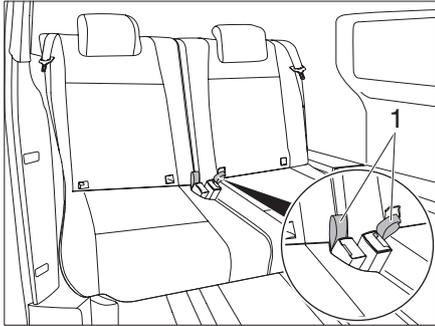

Fig. 19 Tip bench backwards
- Pull the slings (Fig. 19,1) and fold back the bench backrest.